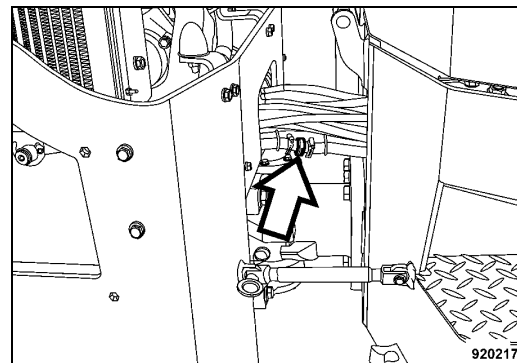

Fig. 187
- Open the hose coupling (Fig. 187) and let the water run out.